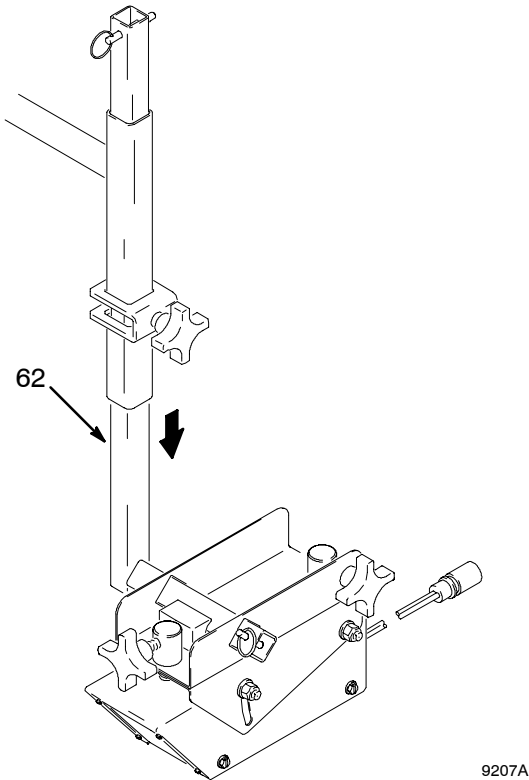

Fig. 14
Slide video camera all the way to side of truck for highway travel. You may also unplug camera and remove support arm (62) and camera. See Fig. 14.